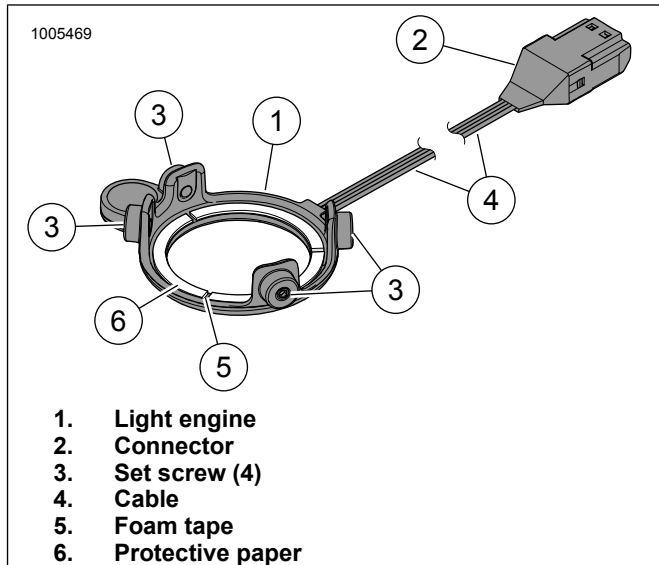

Figure 9. LED Light, Round Stage I Speaker
3. See Figure 9. Remove protective paper (6) from foam tape (5) on back of light engine (1).